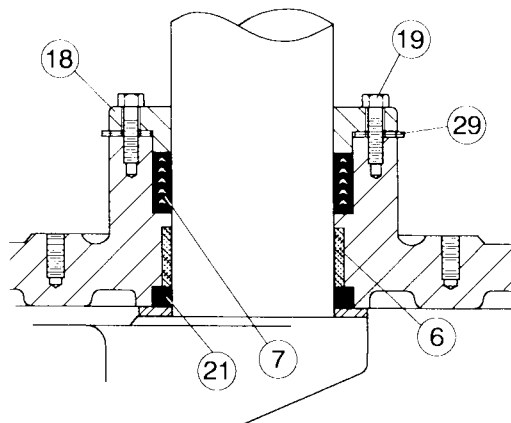

FIGURE 12. 10"-36" PACKING ASSEMBLY
Remove small round cover on actuator to expose shaft and key. Remove actuator mounting bolts and lift actuator from valve taking care not to lose square key. See Figure 12 and remove gland bolts (19) and lift follower (18) from valve shaft. Remove old packing (7) with packing hook. Lubricate new packing with FDA grease and set in place one ring at a time taking care not to bend over the lips of the packing rings. Reinstall follower with 2 shims (29) per bolt (3 shims for 12" and larger valves). With valve in the closed position, place actuator over valve and reinsert key (24). Finally, install cover on actuator indicating "Closed".
Referring to Figure 12, remove follower bolts (19) and slide follower (18) up to actuator. Remove packing adapters and rings (7) with packing hook. Cut rings with knife to remove. New packing rings should be cut at a 45° slope to allow insertion around the shaft and provide some overlap. Install rings one at a time with